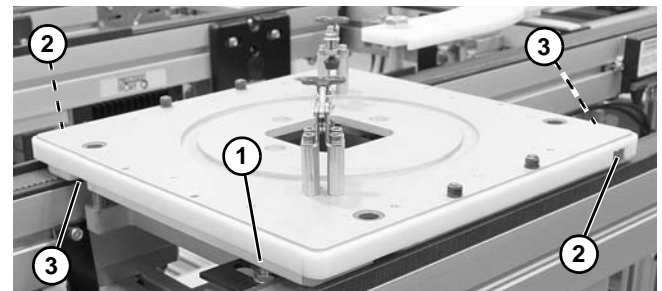

Figure 27
- One bottom (Figure 27, item 1) and two side flags (Figure 27, item 2) can be used for sensing.
- Stop only has to be released long enough to clear pallet skirt that was stopped. Notches (Figure 27, item 3) in skirt allow stop to be reset before pallet clears stop area.